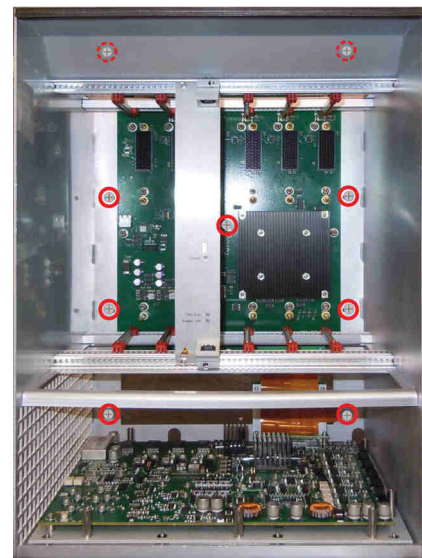
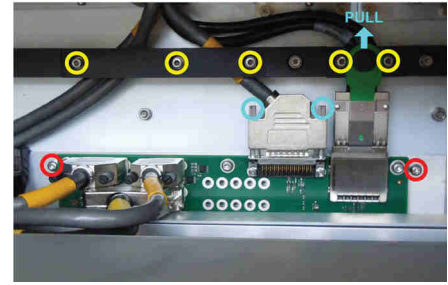

Fig. 10.24 Screws
Fig. 10.25 Support and cables
- 6 Using screwdriver (tools 1/5), loosen 10 captive screws/washers fixing the Crate Assy to the back plate. The location of these is shown with red circles in Fig. 10.24 \(p. 146\). The two upper screws (dotted red circles) are accessible above the Crate Assy (marked with red circles in Fig. 10.25 \(p. 147\)).
- 8 Using Allen 3 mm screwdriver (tools 1/3), remove 5 screws and washers holding two cable supports - shown with yellow circles in Fig. 10.25 (p. 147). Remove the two cable supports.
- 9 Referring to Fig. 10.25 (p. 147), pull the green ring upwards on the rightmost connector to release it from the Motherboard (light blue arrow).
- 12 Mount the connectors removed in step 9 and mount the cable supports removed in step 8 (Fig. 10.25 (p. 147)).